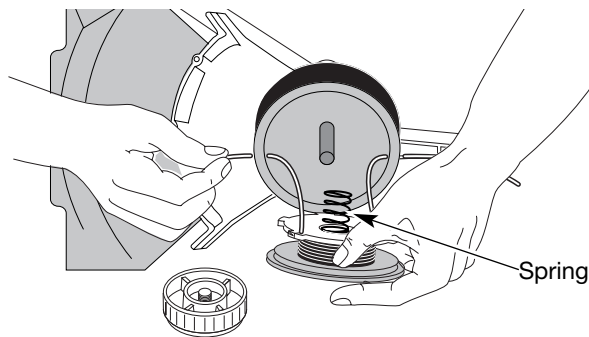

Fig. 38
13. Insert the ends of the line through the eyelets in the outer spool and place inner reel with spring inside the outer spool (Fig. 38). Push the inner reel and outer spool together. While holding the inner reel and outer spool, grasp the ends and pull firmly to release the line from the holding slots in the reel.
5. Insert the ends of the line through the eyelets in the outer spool (Fig. 38).